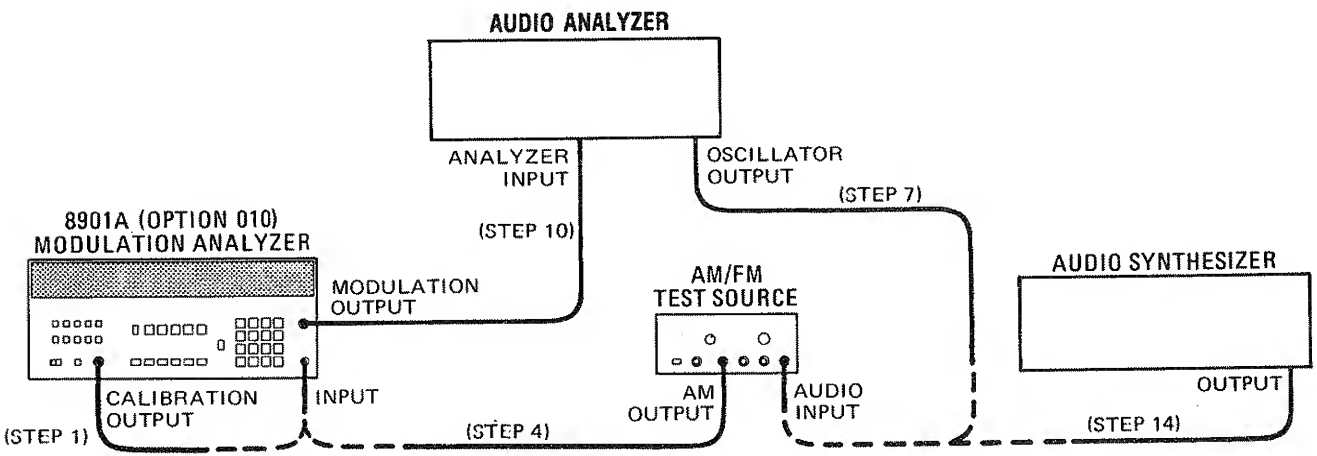

Figure 4-1. AM Performance Test Setup (for HP 8901A Equipped with Option 010)
4. On the AM/FM test source, set the test mode switch to AM. Connect the test source AM output to the Modulation Analyzer's INPUT. (See figure 4-1. Nothing should be connected to the test source's audio input.)
7. Set the audio analyzer's source to 20 kHz. Connect its output to the audio input of the AM/FM test source. (See figure 4-1.)
10. Connect the audio analyzer's input to the Modulation Analyzer's MODULATION OUTPUT. (See figure 4-1.) Set the audio analyzer to measure the distortion on the 20 kHz signal at the MODULATION OUTPUT with 80 kHz of low-pass filtering (on the audio analyzer). The distortion should be 0.3% or less (-50.5 dB or less).
14. Set the audio synthesizer to 1 kHz at +5 dBm. Connect its output to the audio input of the AM/FM test source. (See figure 4-1.) Fine adjust the audio synthesizer level for a Modulation Analyzer display of 80% AM.